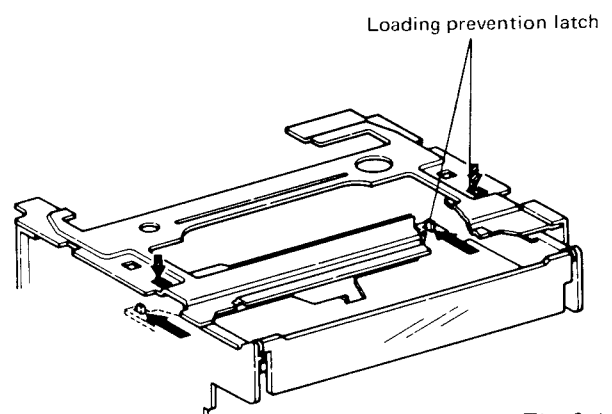

Fig. 3-4
- 8) Check that, in the unloaded position, the loading prevention latch attached to the bottom of the cassette housing is fastened to the housing side strip. (See Fig. 3-4)